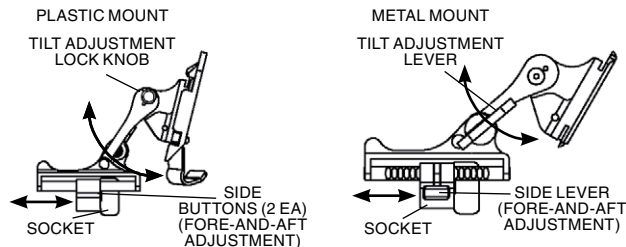

FIGURE 2.17. TILT AND FLIP-UP ASSEMBLY MECHANISMS
Set your eye relief by depressing the side buttons (or press down on side lever on metal mount) (see Figure 2.17.) and carefully move the goggles fore or aft until the eyecup comfortably seals around the eye. Readjust the helmet straps as required for vertical adjustment.
- (4) Turn power switch to ON. Adjust the tilt by using the tilt adjustment lock knob (or tilt adjustment lever on metal mount) (Figure 2.17.) until you obtain a comfortable viewing angle.
- (6) Adjust the eye relief distance by depressing the side buttons (Figure 2.17.) (or press down on side lever on metal mount) and sliding goggles fore or aft to obtain a full field-of-view of the image. Reset the diopter adjustment for best image.